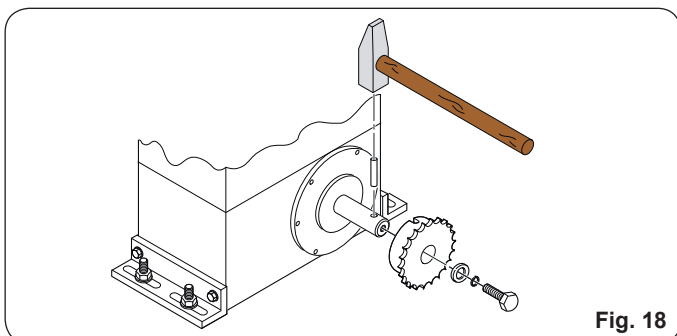

Fig. 18
4.5.1 MOD. 746ER CAT (FIG. 18 - 19)